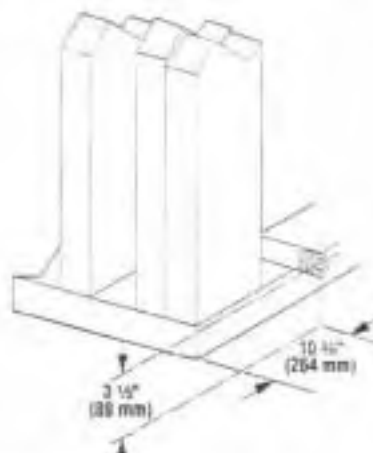

Figure 12
Step 2. Route a $\frac{1}{2}$ " (13 mm) gas line along the left or right side framing Figure 12.